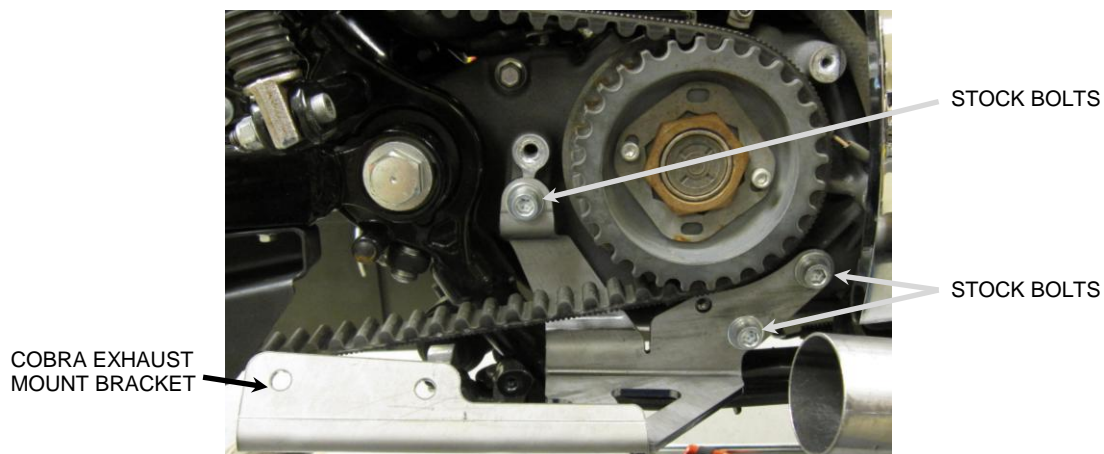

FIGURE 1
6. Install the supplied exhaust mount bracket using the stock bolts. See **FIGURE 1**. Tighten the bolts to factory specifications.